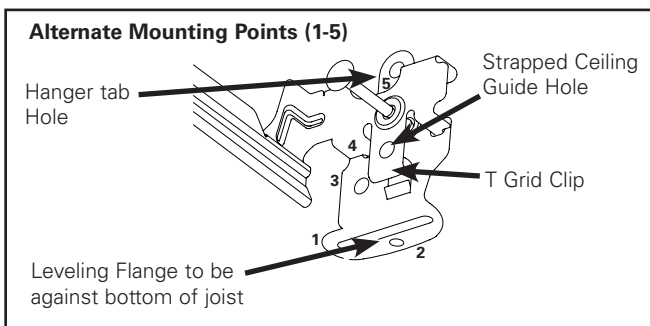

Figure 2.
1. Extend bar hangers to fit between joists. Position fixture by hammering nails into joists. Hanger bar flange should be against bottom of joist (Figure 2)